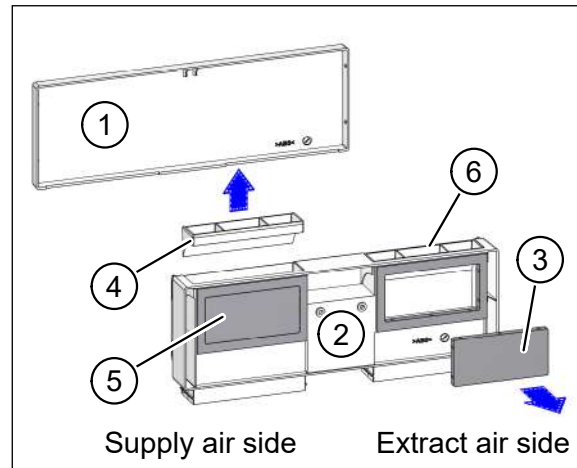

Fig. 42: Preparing the duct adapter – back view
In combination with the optional duct adapter M-WRG-II KA-UP you can connect a flat ductwork or flexible pipe system on the extract air side (example in Fig. 42), supply air side or on both sides of the ventilation unit. The duct adapter must be prepared to suit the selected configuration.
- ▶ Detach the cover (item 1 in Fig. 42) from the duct adapter (item 2 in Fig. 42).
- **Ductwork connection on the extract air side only:** Remove the wall seal on the extract air side (item 3 in Fig. 42) and the air baffle cover on the supply air side (item 4 in Fig. 42).
- **Ductwork connection on the supply air side only:** Remove the wall seal on the supply air side (item 5 in Fig. 42) and the air baffle cover on the extract air side (item 6 in Fig. 42).
- **Ductwork connection on the extract air and supply air sides:** Remove the wall seal on the extract air side (item 3 in Fig. 42) and supply air side (item 5 in Fig. 42). Both air baffle covers (items 4 and 6 in Fig. 42) remain in the duct adapter.